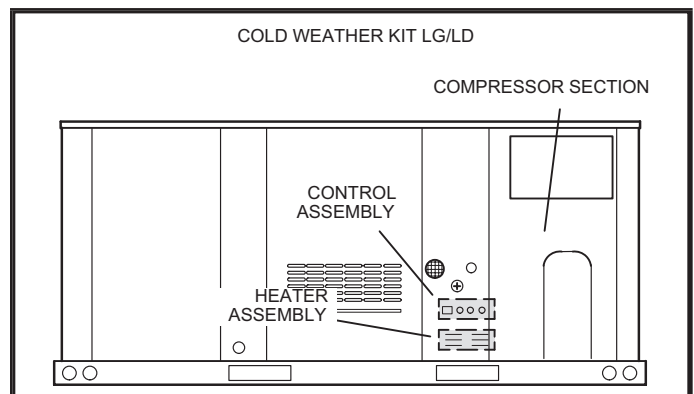
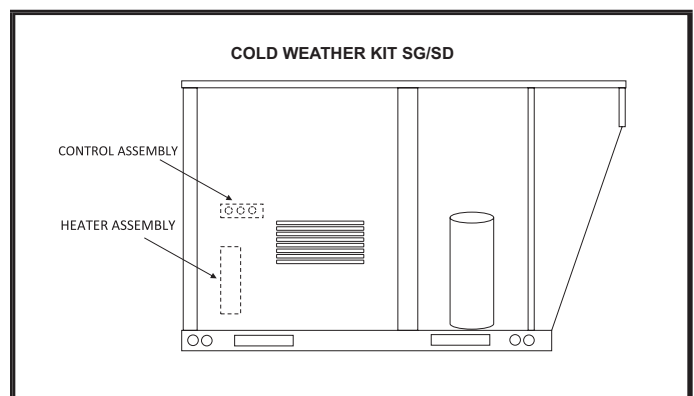

FIGURE 1
FIGURE 2
- 2 - Install the heater and control assembly in the compressor compartment as shown in FIGURE 1 and FIGURE 2. Secure with provided screws.